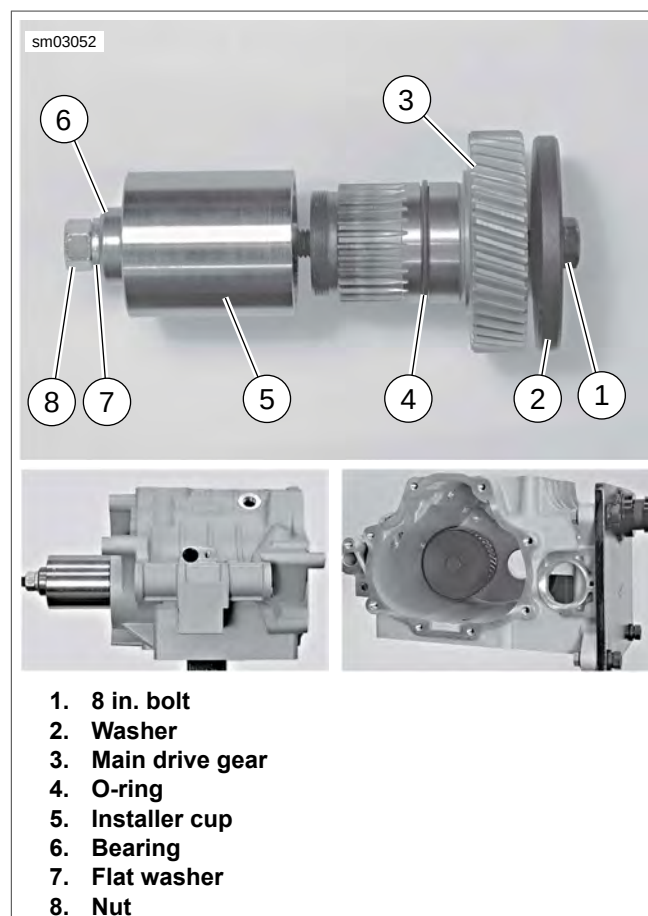

Figure 6-43. Installing Main Drive Gear (Typical)
See Figure 6-43. Make sure **new** O-ring (4) is installed onto main drive gear (3). Lubricate O-ring with **SCREAMIN' EAGLE ASSEMBLY LUBE** before installing drive gear into transmission case.
1. See Figure 6-43. Apply a light coat of graphite lubricant to the threads of 8 IN. BOLT (Part No. HD-35316-4A) (1) and insert through WASHER (Part No. HD-35316-7) (2) and main drive gear (3). Insert assembly into transmission case, through main drive gear bearing.
2. At outside of case, place INSTALLER CUP (Part No. HD-35316-12) (5), BEARING (6), FLAT WASHER (7) and NUT (8) over end of bolt.